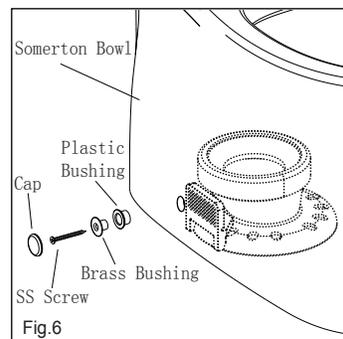

Fig.6
6. Insert the plastic bushing and brass bushing into the Bowl fixin hole as shown in Fig.6. Secure the bushings through the holes in fixing bracket with SS screws as shown in Fig. 7. Spacing between the outside of the Somerton bowl and the fixing bracket can vary. To ensure the best possible installation 2 lengths of SS screws have been supplied. Start with the shorter 30mm (1-3/16") set of SS screws and fasten as shown in Fig. 7. If when fastening there is no resistance, (meaning that the screw has not sufficiently fastened into the fixing bracket), substitute the longer 55mm (2-3/16") screws. Do not start with the longer hardware as you do not want the screws to insert past the fixing bracket into the offset adaptor, as this can affect your seal. Cover it with the supplied cap.